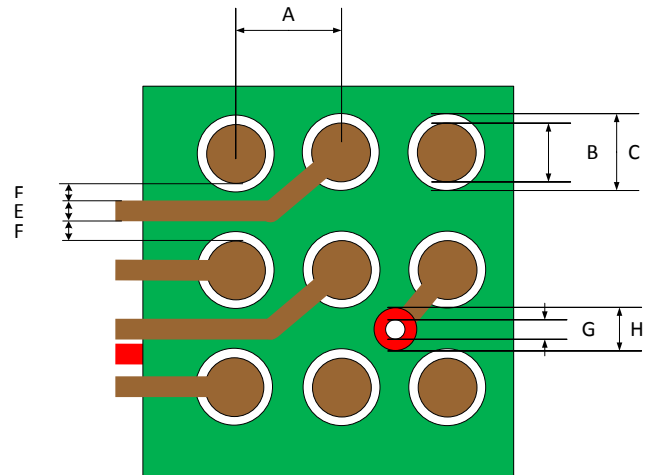

Figure 12. Escape Routing Through 157-Ball BGA
- Routing from the second row of balls between the first row of balls using a 0.1mm (4.0 mil) trace and spacing is possible as shown in Figure 12. Refer to Table 1 for pad and trace dimensions.